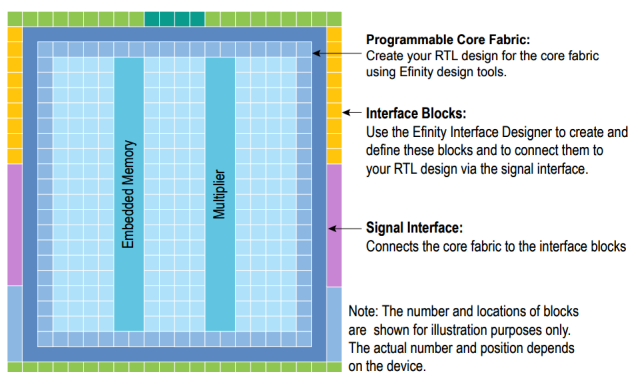

Fig. 7. Interface Designer
2. In the Interface Designer, add a JTAG User Tap block, after configure it, and generate the SDC constraints (Fig. 7).